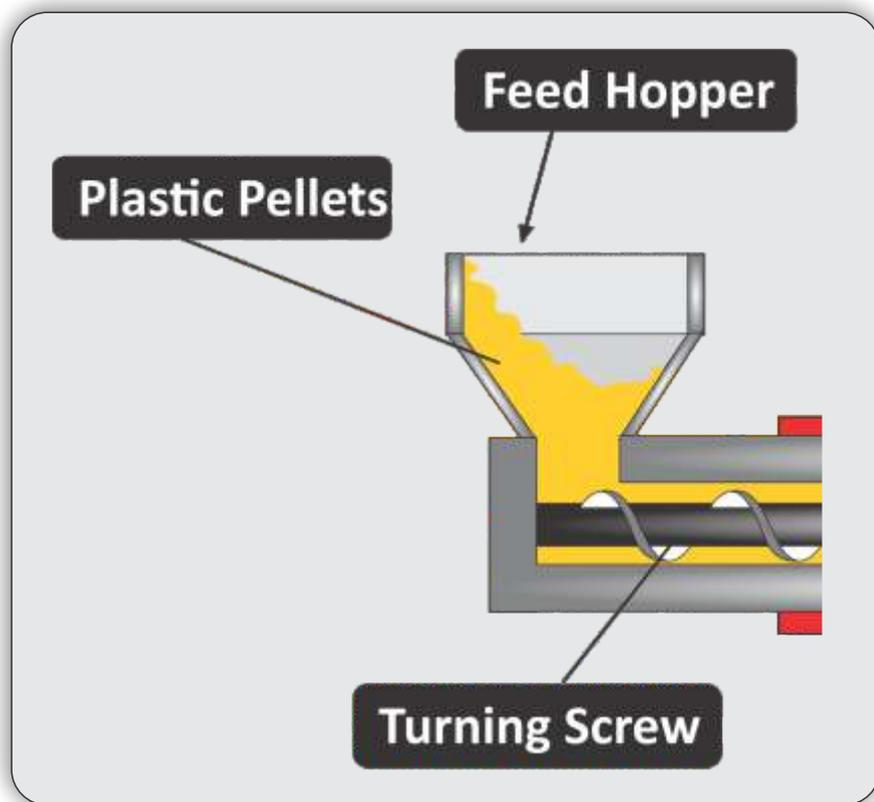

Figure 2.2 Step 1 where the raw materials (plastic pellets) are put into a feed hopper
- 1 The raw materials (**plastic pellets**) are put into a **feed hopper** that transports them to the extruder, which is placed at the machine's top. This means that the pellets will be fed into the extruder's barrel by gravity as shown in Figure 2.2. Any additives or colourants are added to the mix at this point in the process if they are appropriate for the end result.